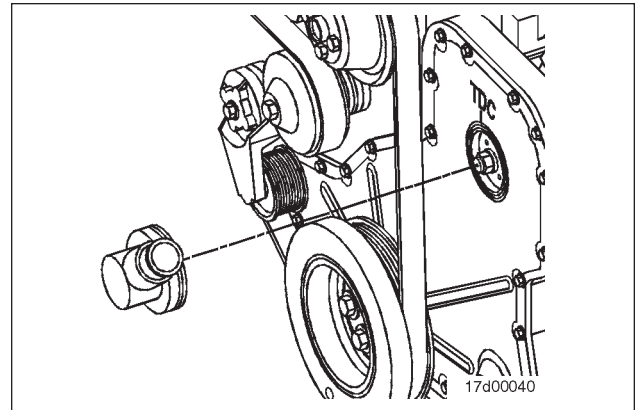

FIG. 1
1. Remove the plastic pump drive cover located on the front of the engine. This will expose the fuel pump gears and timing marks (Fig. 1).